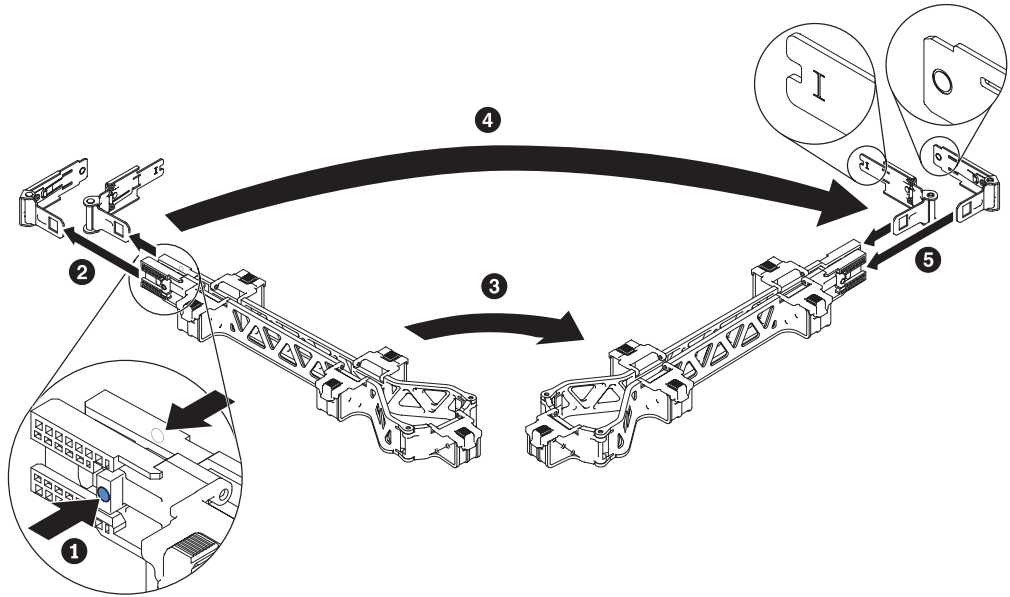

Figure 40. Installing the cable management arm on the opposite side
10. Optional: You can install the cable management arm assembly on the opposite side, as shown in Figure 40 on page 50.